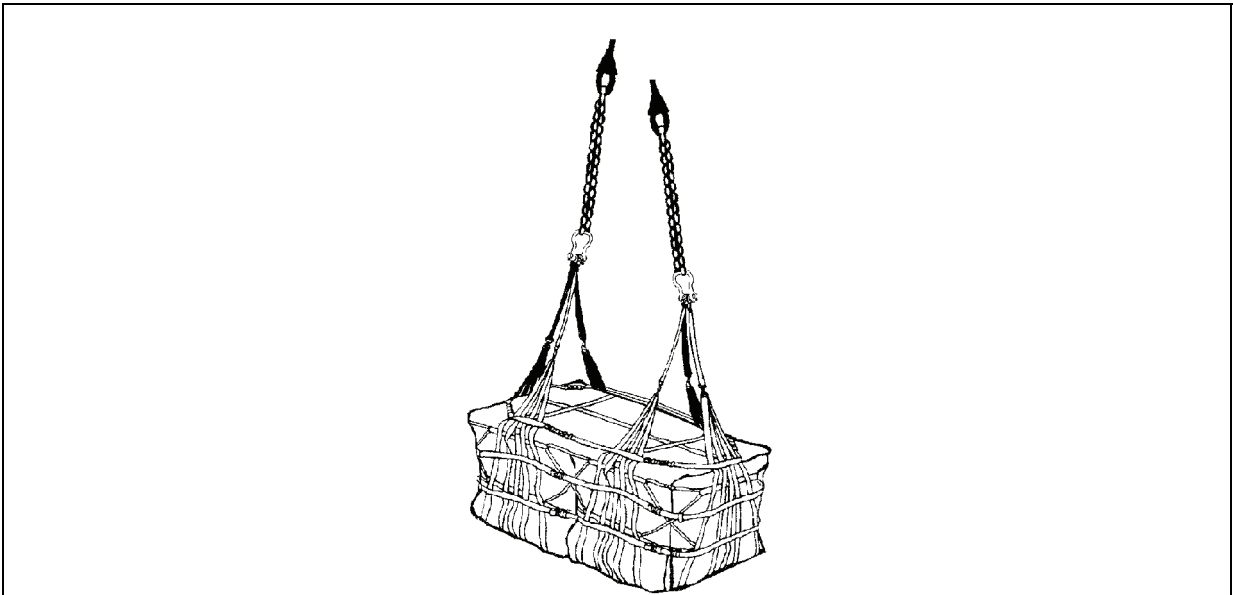
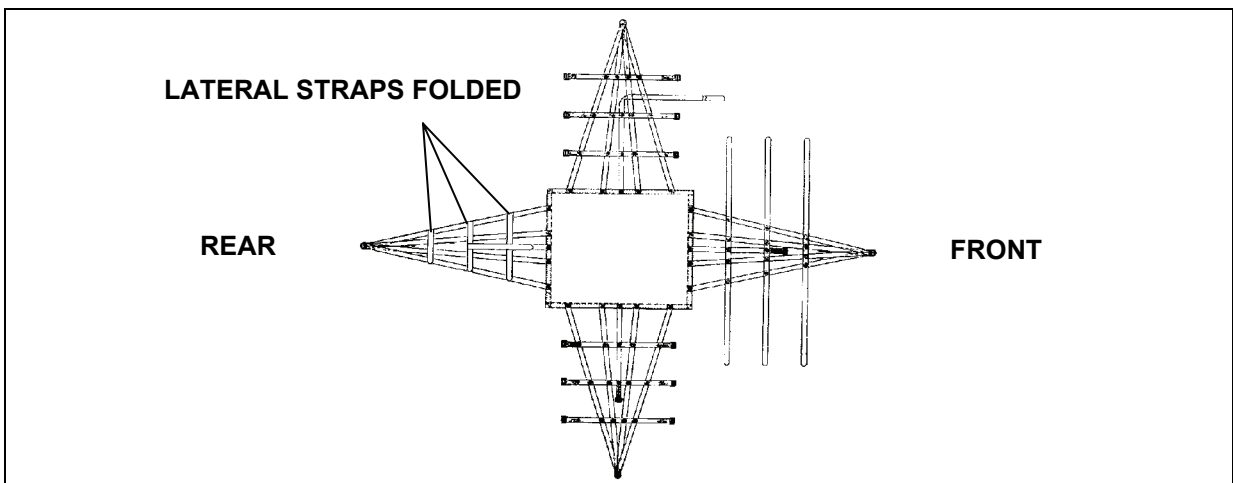

Figure 8-17. Stretch A-22 Cargo Bag
Figure 8-18. First A-22 Sling Assembly Positioned
8-4. The stretch A-22 cargo bag is two adjustable cotton duck/nylon cloth and nylon webbing containers consisting of two sling assemblies, two covers, and six suspension webs (Figure 8-17). The bag is used to deliver loads that are longer than the standard A-22 load but shorter than a double A-22. The cover is optional. The stretch A-22 has a weight capacity of 900 - 2,200 pounds. Inspect the container for serviceability in accordance with Table 2-1, Preventive Maintenance Checks and Services, in TM 10-1670-298-20&P. The best way to learn about this carrying device is to rig and derig it several times. The following steps and Figures 8-18 through 8-22 explain how to rig a double A-22 cargo bag.
- Fold and place all lateral straps on top of the rear support web (Figure 8-18).